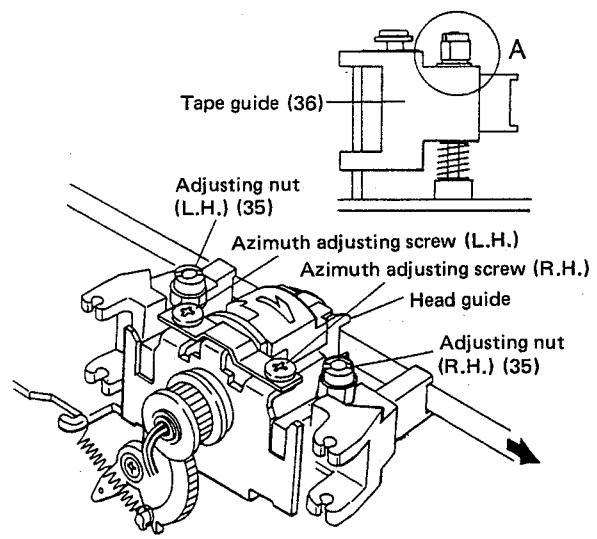

Fig. 33
- 1) Align the adjusting nuts (35) on the right-hand and left-hand tape guides (36) to the upper end of shaft as shown in Fig. 33-A.
- 2) Play back a 6.3kHz or 10kHz test tape in forward play mode, turn the R.H. azimuth adjusting screw for adjustment. (See Fig. 33.) Then, play back the test tape in reverse play mode and turn the L.H. azimuth adjusting screw for adjustment (See Fig. 34.)
- 3) Using the mirror tape, check that the tape runs normally in forward and reverse play modes and that the tape is not curled at the tape guide on the combination head (4).
- 4) If the tape is found to be curled, turn the adjusting nuts (35) on the R.H. and L.H. tape guides (36) to adjust the tape.
- 6) When running of the tape has been adjusted, tighten and lock the adjusting nuts (35) and azimuth adjusting screws.